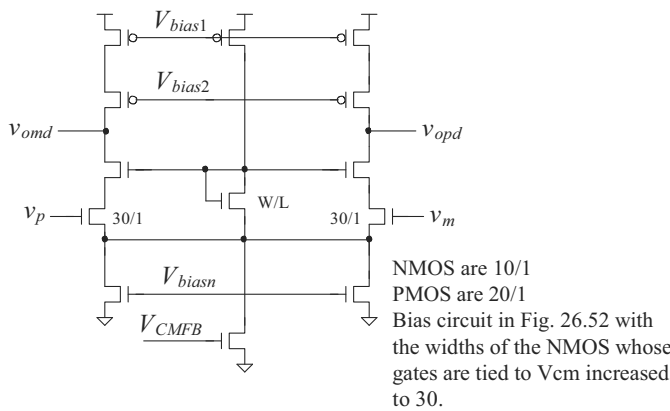

Figure 26.63 Modifying the diff-amp seen in Fig. 26.53 for wider swing operation.
- 26.18** Using the diff-amp in Fig. 26.63 in the configuration seen in Fig. 26.54 (with SC CMFB) and the output buffer in Fig. 26.56 (again with SC CMFB), regenerate the waveforms seen in Fig. 26.60.
- 26.19** A switched-capacitor integrator is an example of a circuit that uses an op-amp that can't have the outputs of its diff-amp or output buffer shorted when ϕ_1 goes high. Using the diff-amp in Fig. 26.63 (with SC CMFB) and the output buffer in Fig. 26.56 without the switches (again with SC CMFB), demonstrate the operation of a SC integrator.